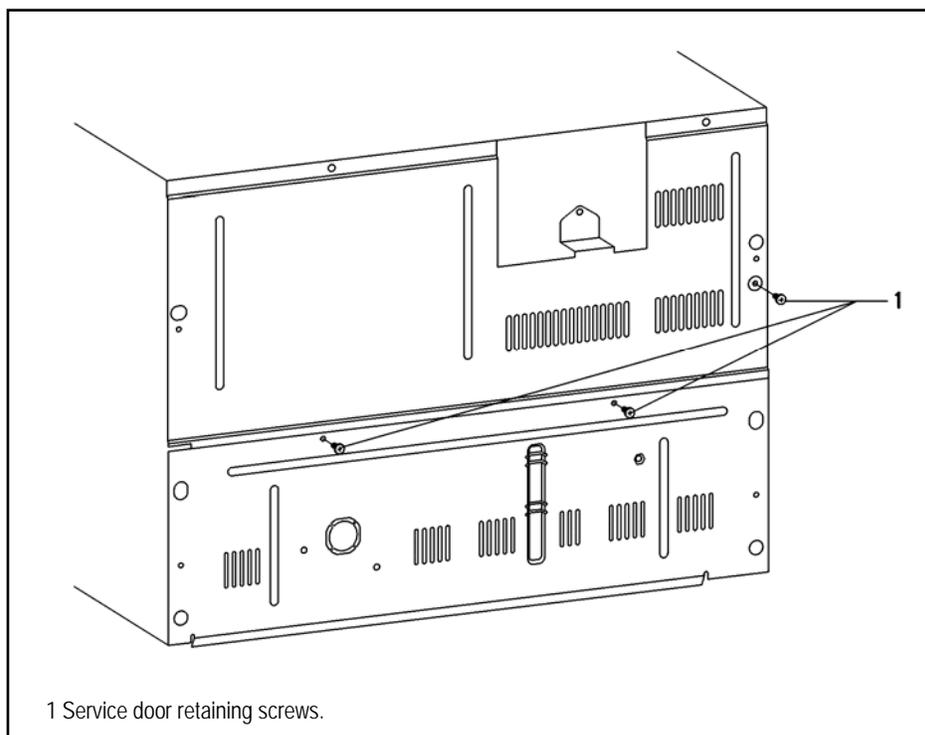

Figure 5-38: CVA4070 Service Door Steam Pump Removal
4. Remove the service door retaining screws (Figure 5-38, Item 1).